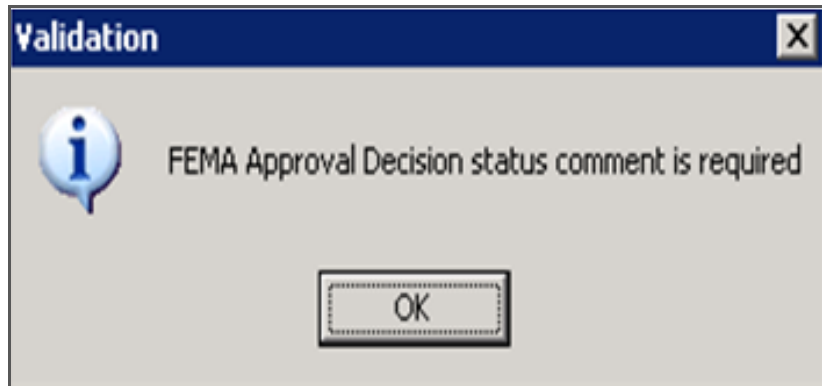

Figure 7-103: Validation message example – Information required
6. As the tab is completed, save data by tabbing off and back to Application Detail tab or by selecting Close. When tabbing off, if any data entered does not pass validation a validation message such as the example shown below will appear (Figure 7-103). The user will not be able to tab off until the data is corrected to pass validation.